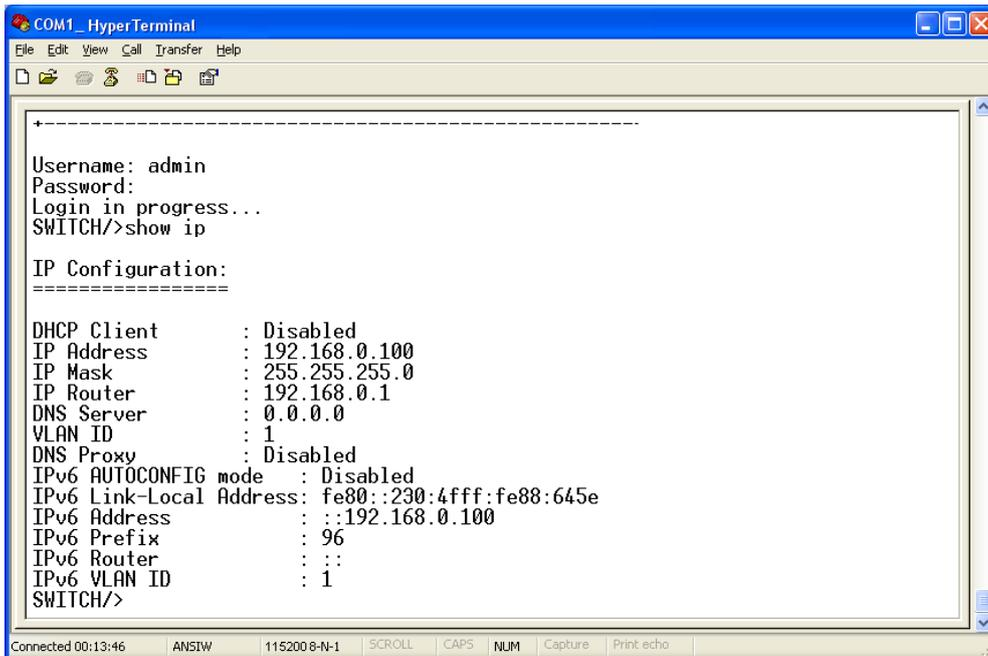

Figure 2: Show IP Information Screen
2. The screen displays the current IP address, Subnet Mask and Gateway. As shown in Figure 2.